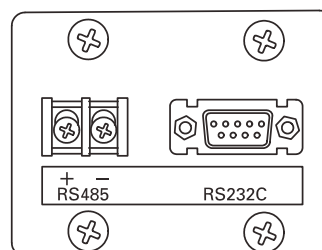

Fig. 6
5. Fix an interface board (MTR-480) on the control panel with 4 screws. (Fig. 6)